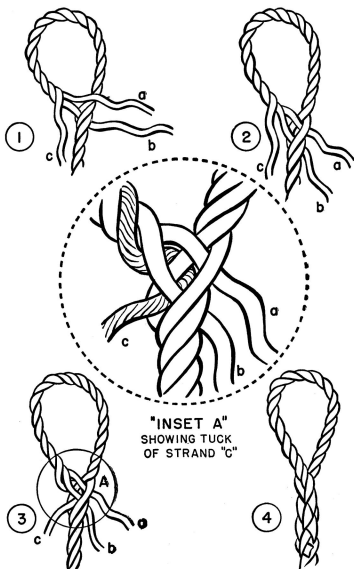

FIGURE 51.—Eye splice.
■ **25. EYE SPLICE.**—The eye splice is used to secure a rope permanently to a ring or becket and for making a permanent loop in the end of a rope. To make an eye splice (see fig. 51).—